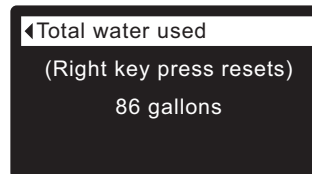

FIG. 123
6. The **Total water used** screen (See Figure 123) shows the volume of water used since it was last reset (it works like the trip odometer in a car). To reset the value to 0, press the RIGHT (►) button while this screen is displayed.